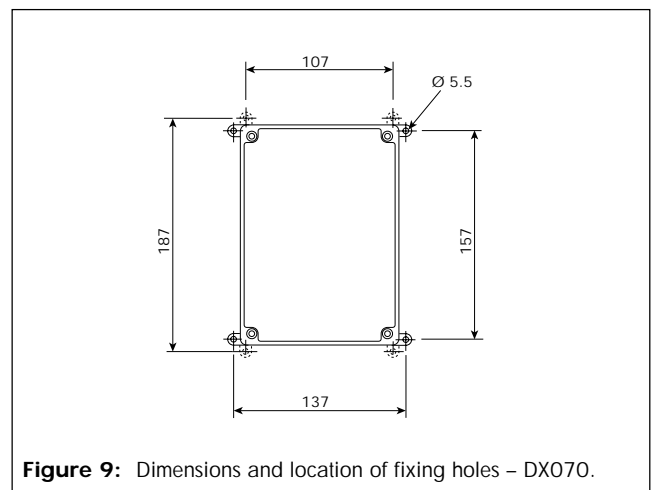

Figure 9: Dimensions and location of fixing holes – DX070.
See figures 9 to 11 for the dimensions and mounting hole distances, etc., of the three DX enclosures. The recommended method of mounting—described here—uses the four wall-mounting lugs supplied with each enclosure. An alternative method of mounting is by direct attachment to the mounting surface through the corner holes.
- Each lug can be used in one of two positions as shown in figures 9 to 11.
- Appropriate fixing hole distances are shown in figures 9 to 11.